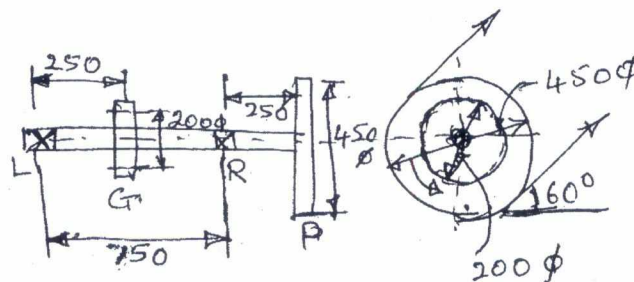

Fig. Q5
- 5 A machine shaft running at 600 rev/min is supported on bearings 750 mm apart as shown in Fig. Q5. Fifteen KW is supplied to the shaft through a 450 mm. Pulley (P) located 250 mm to the right of the right bearing (R). The power is given away from the shaft through a 200 mm spur gear (G) located 250 mm to the right of the left bearing (L). The belt drive is at angle of 60° above the horizontal. The pulley weighs 800 N to provide some flywheel effect. The ratio of belt tensions is 3 : 1. The gear has a 20° tooth form and mates another gear located directly above it. The shaft material has an ultimate strength of 500 MPa and a yield strength of 310 MPa. Determine the necessary diameter of shaft as per ASME standards. Take the load factors in bending and torsion as 1.5 and 1.0 respectively and also keyway effects due to mounting of gear and pulley. The shaft rotates CCW looking from left as shown. (20 Marks)